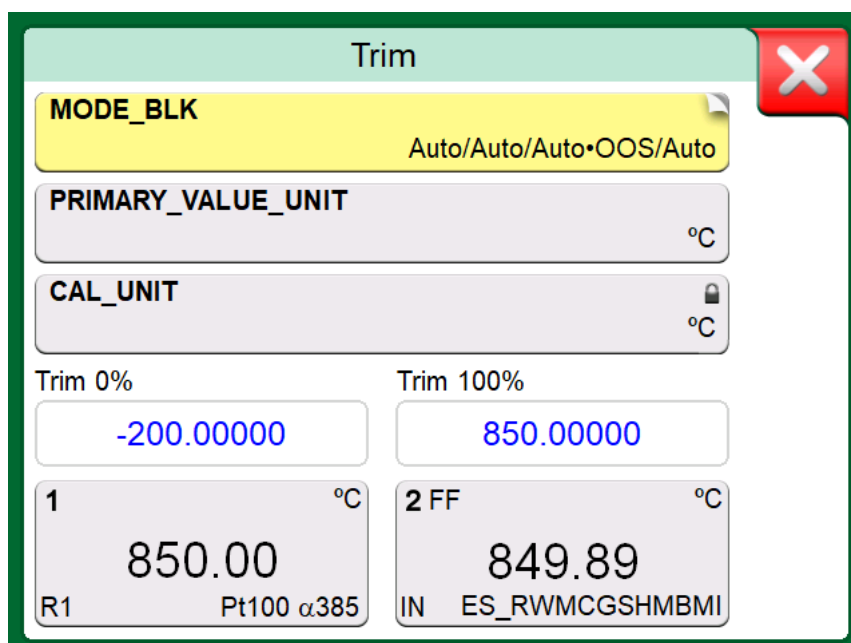

Figure 102: Fieldbus instrument's trimming window, example
Menu option **Start Trimming** opens a window similar to the Figure 102: Fieldbus instrument's trimming window, example. The list of Blocks and Parameters depends on instrument's Device Description. The lower part of the window has areas where the instrument's input (1) and output (2) readings are shown.